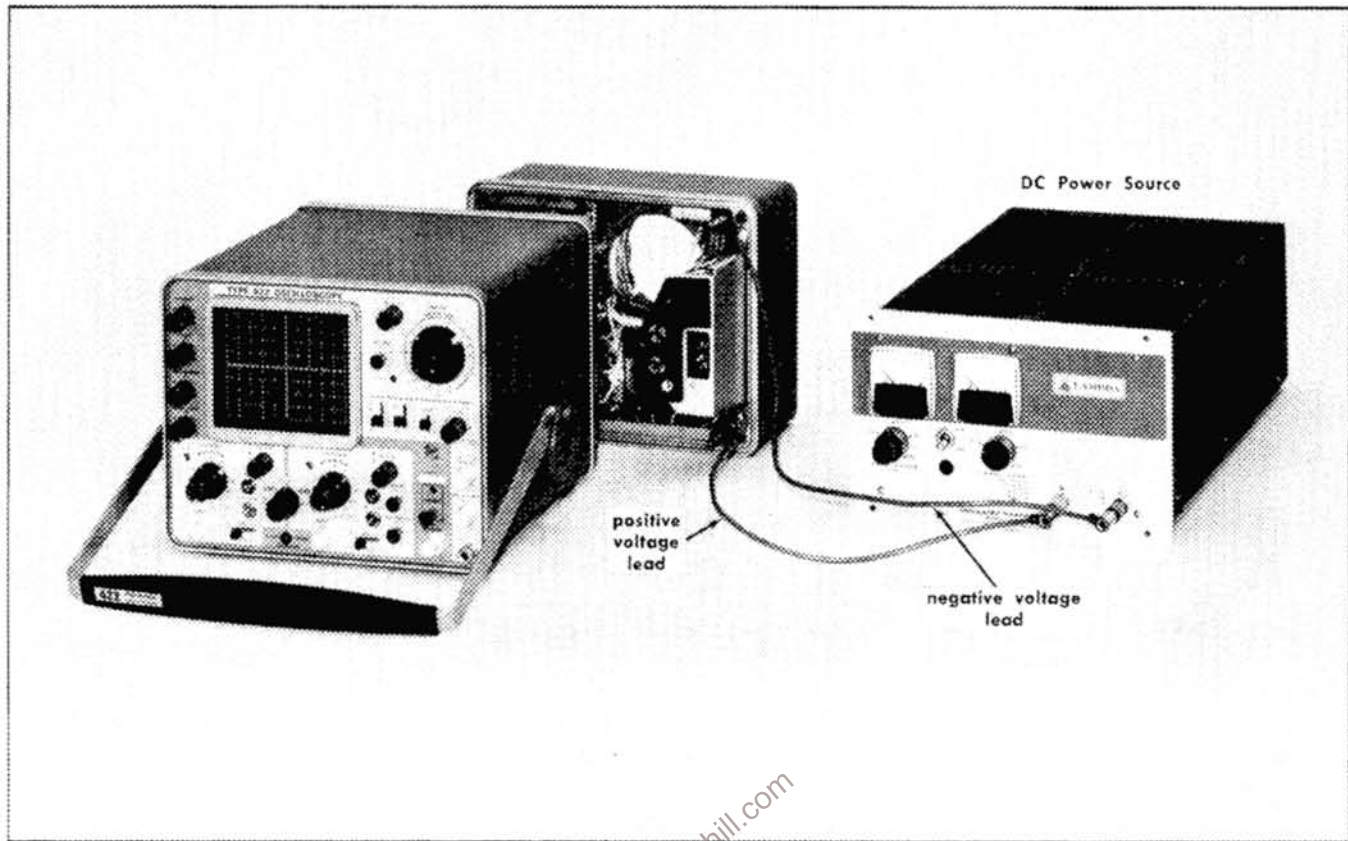

Fig. 6-7. Test equipment setup for Low-Voltage Indicator adjustment.
- a. Test equipment setup is shown in Fig. 6-7.